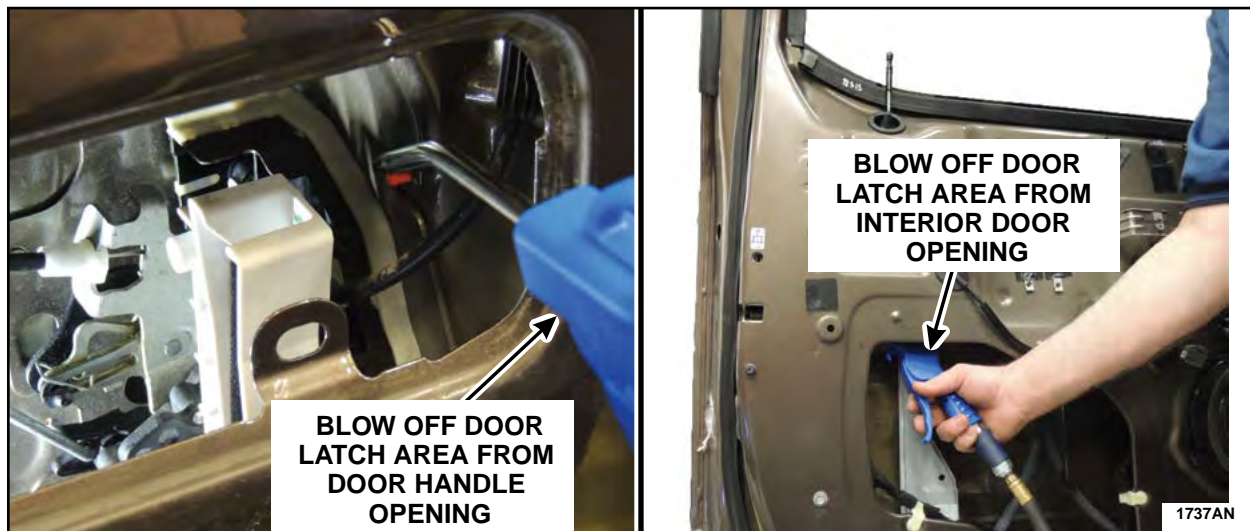

FIGURE 54
4. Using compressed air, blow out any debris or residual water from the door latch assembly, exterior door handle mechanism and cables for thirty seconds. Blow drying with compressed air for thirty seconds is critical to remove as much moisture as possible. See Figure 54.